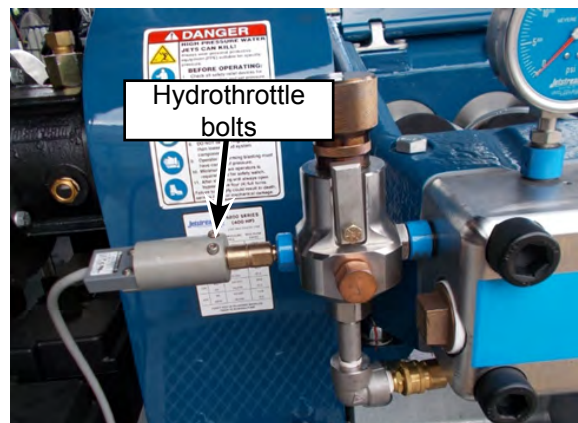

Figure 15: Hydro-Throttle Switch.
3. Remove the two bolts that secure the hydro-throttle switch aluminum housing to the brass cartridge in the manifold (if installed). Remove the switch and housing and set aside. (Figure 15)